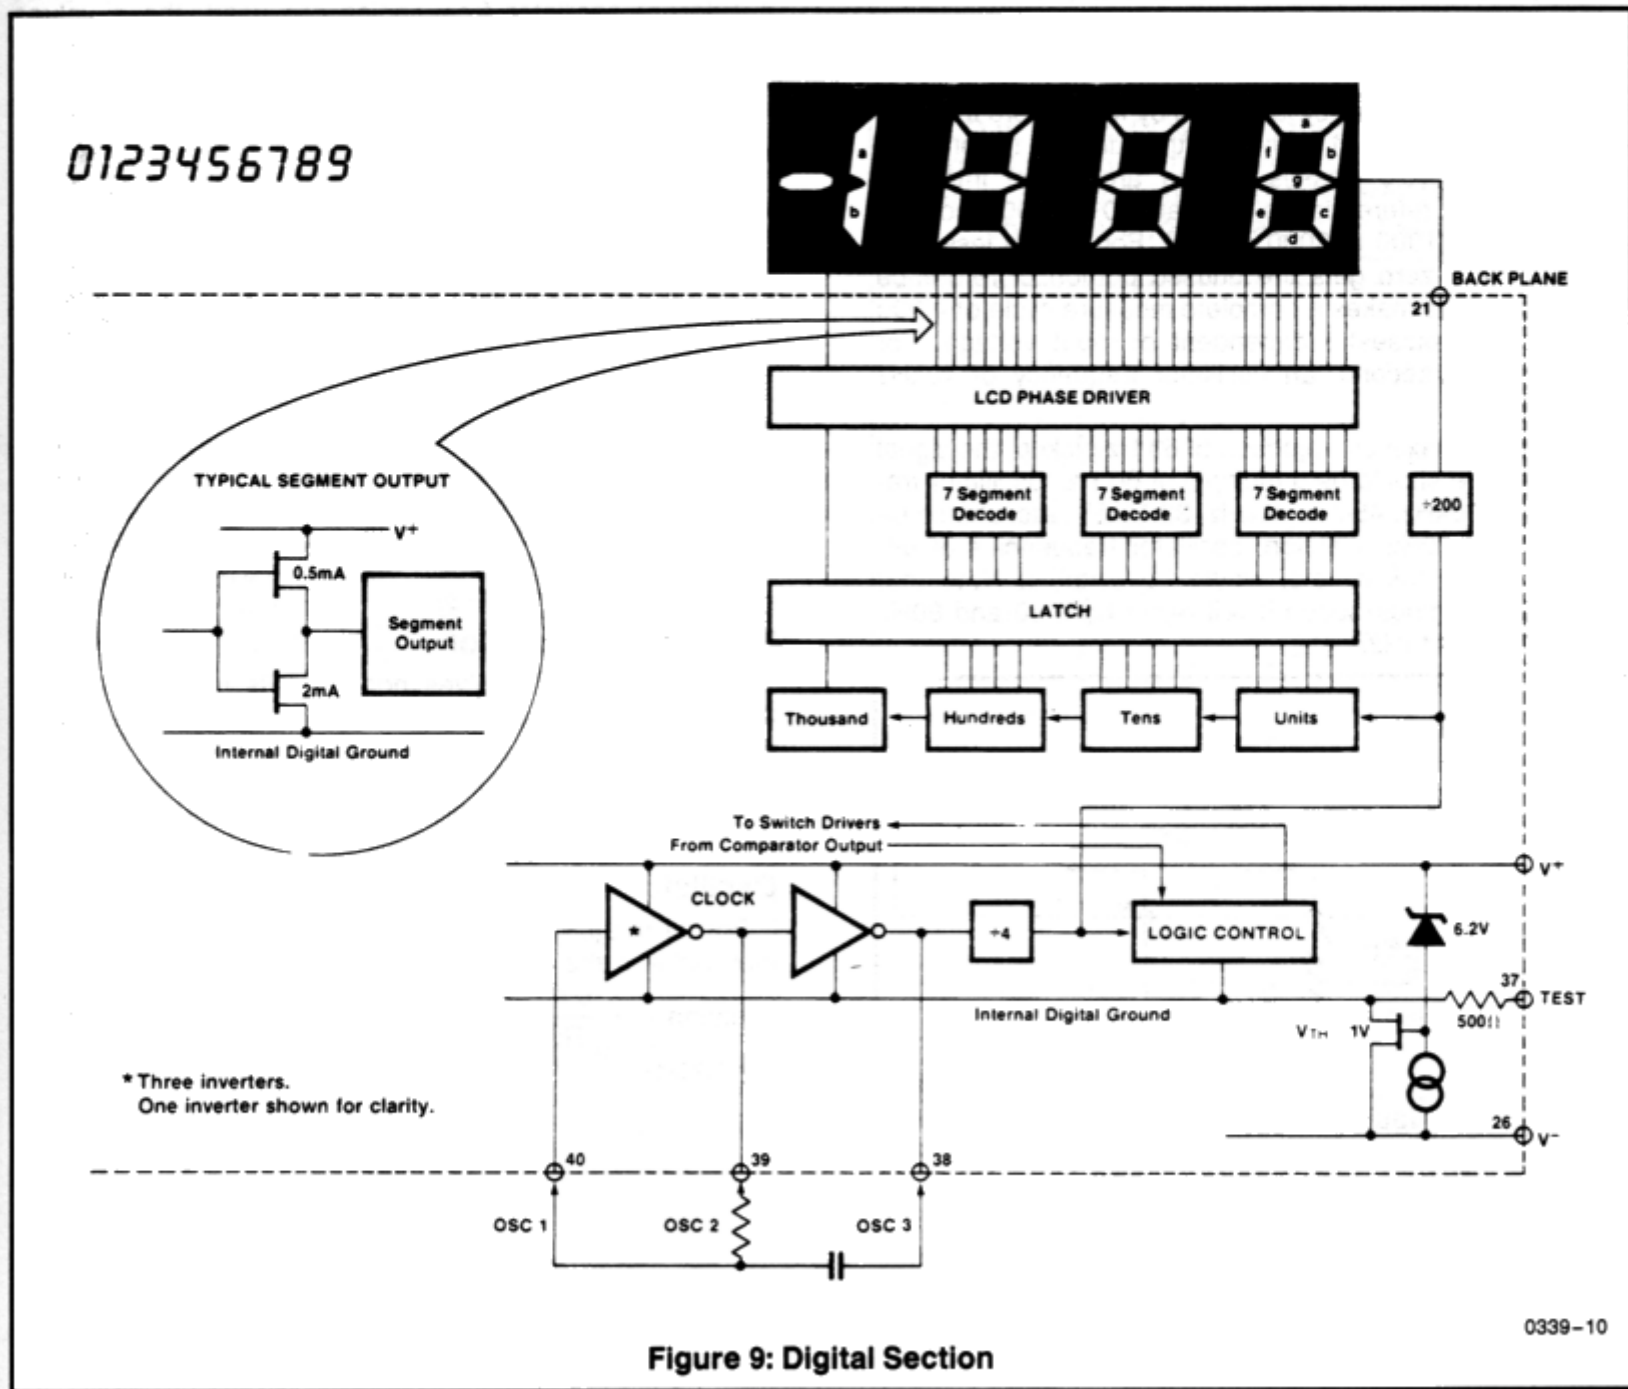

Figure 9: Digital Section
Figure 9 shows the digital section for the 7126. An internal digital ground is generated from a 6 Volt Zener diode and a large P channel source follower. This supply is made stiff to absorb the relative large capacitive currents when the back plane (BP) voltage is switched. The BP frequency is the clock frequency divided by 800. For three readings/second this is a 60 Hz square wave with a nominal amplitude of 5 Volts. The segments are driven at the same frequency and amplitude and are in phase with BP when OFF, but out of phase when ON. In all cases negligible DC voltage exists across the segments. The polarity indication is "ON" for negative analog inputs. If IN LO and IN HI are reversed, this indication can be reversed also, if desired.